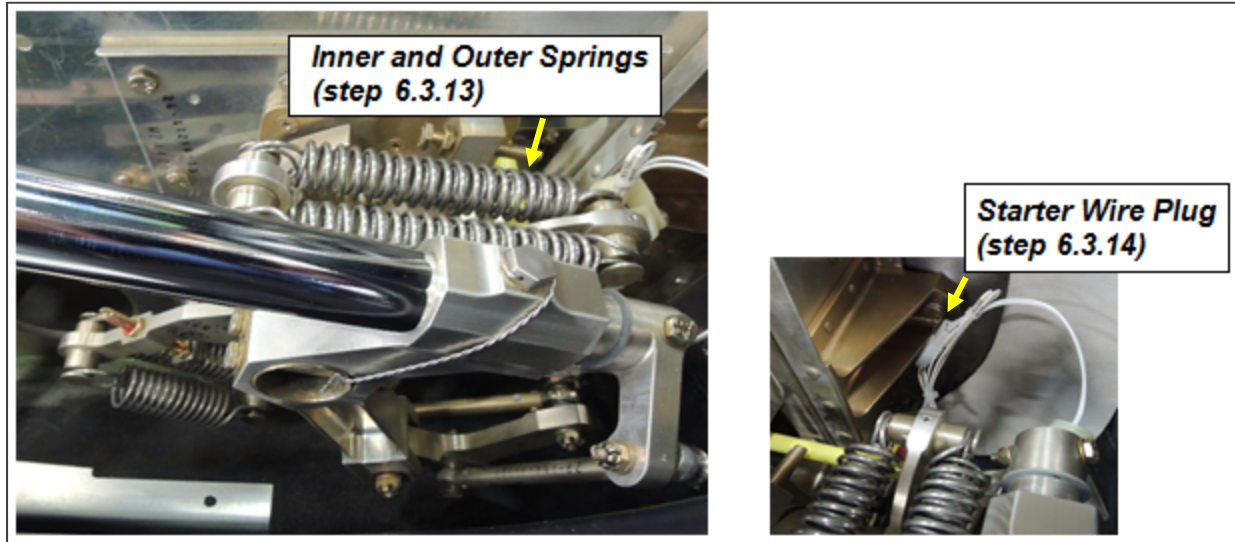

Figure 9. Correlator Springs and Starter Wire Plug
6.3.13 Remove the four springs from the collective/correlator assembly (Figure 9).
6.3.14 Disconnect the starter wire plug (Figure 9).
- 6.4.14 Reinstall the springs and starter wire plug (Figure 9).